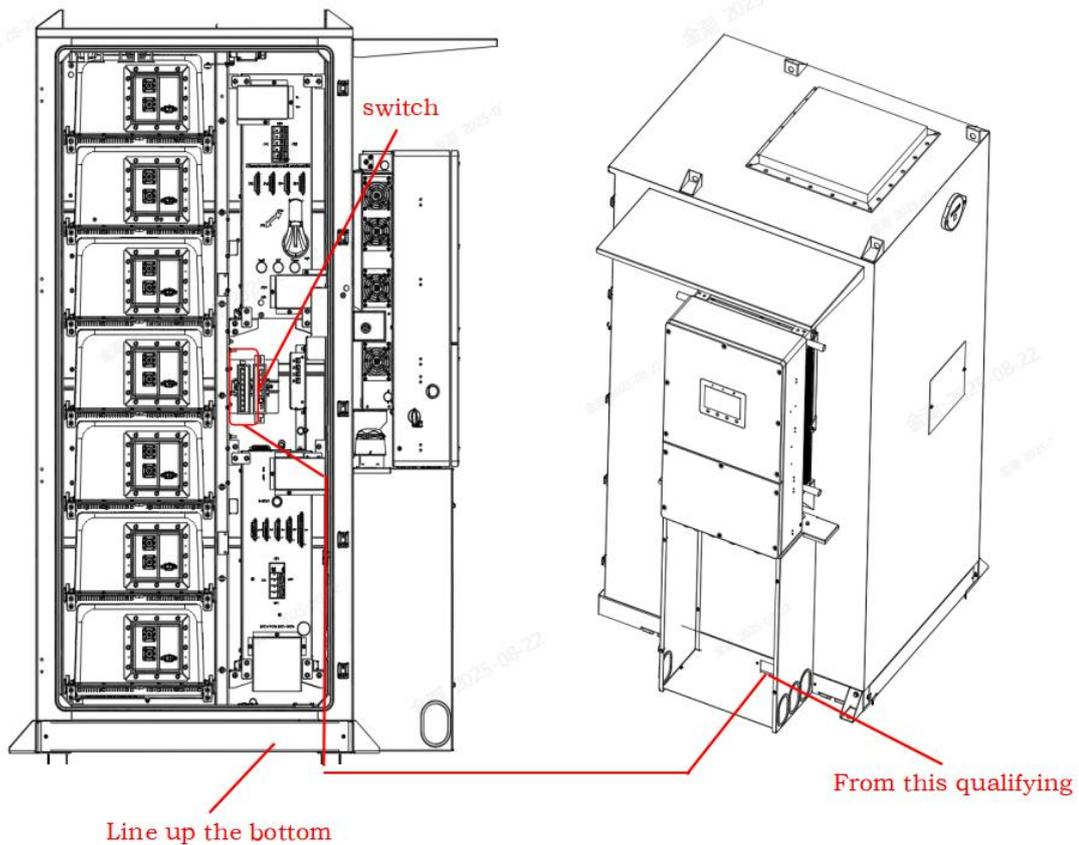

Figure 5-21 Communication cable schematic diagram
1. The on-site Ethernet cable should be connected to the network port of the battery cabinet switch. The switch port can be wired arbitrarily, and there is no fixed position requirement. Follow the connection method shown in Figure 5-21. The following is the interface definition.